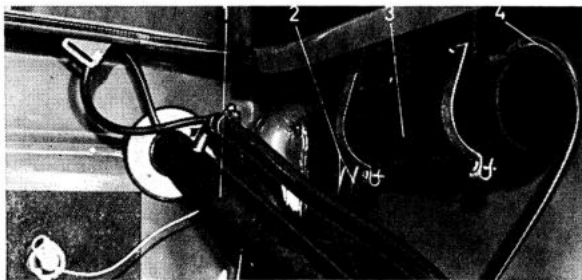

Fig. 2-64. Expansion tank
Fuel fumes formed in the fuel tank, especially during warm weather, are led to the expansion tank (2) and from there to the venting filter (3) where they are absorbed by active carbon. The expansion tank is located behind the protective wallboard in the luggage compartment, see Fig. 2-64.